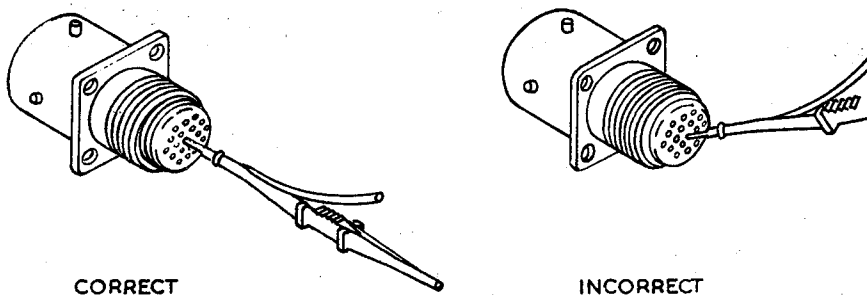

Fig. 9. Contact insertion into insert
(4) Slowly push the contact into the rear insert ensuring that the contact and insertion tool are correctly aligned as shown in fig. 9.
(5) When the contact is fully inserted a positive stop will be encountered and